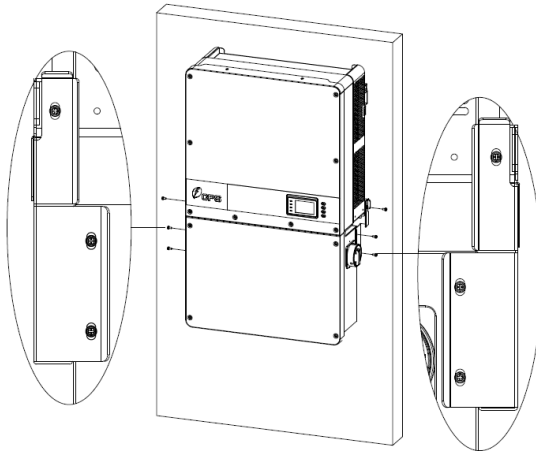

Figure 3-14 Secure the Main Enclosure and Wiring Box to the Bracket
- Step 5** Attach the main enclosure and the wiring box to the mounting bracket with the M6x18 screws (6 pcs). (see Figure 3-14). Tool required: No.3 Phillips head screwdriver, torque value of 4N.m (35.4in-lbs)